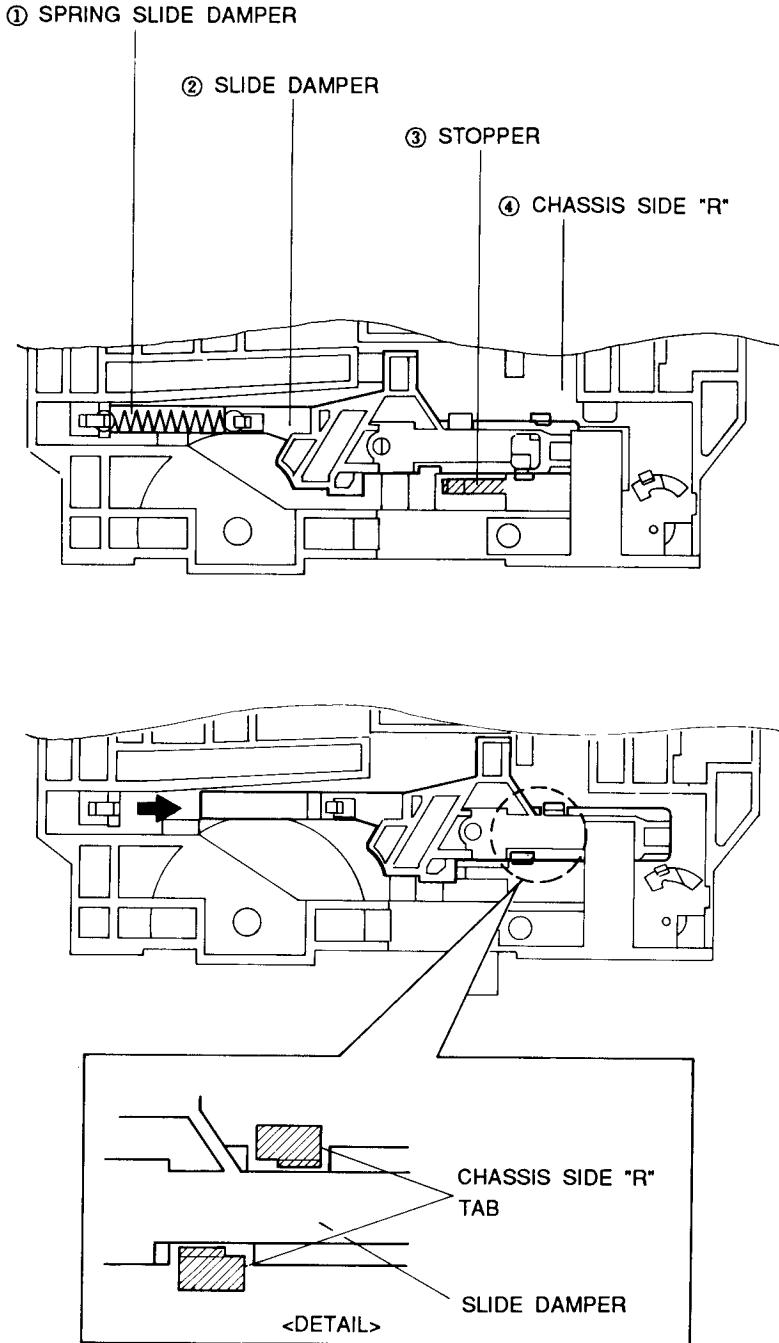

Fig. 17 Slide Damper Removal
- 1) Reinstall the motor stator ① toward the FPC cable of cylinder sub ass'y ②.
- 2) Secure with three(3) screws. (Refer to Fig. 17)